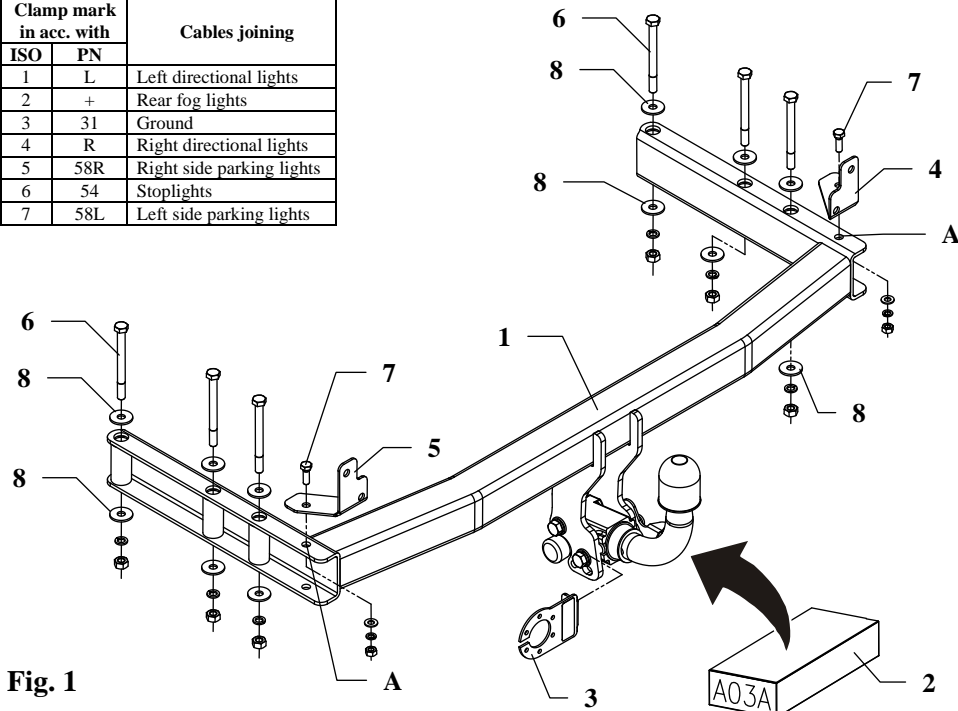
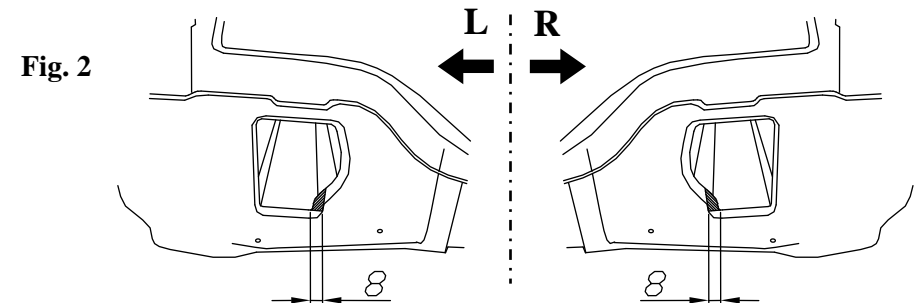

Fig. 1
Fig. 2
2. Enlarge enter of chassis members by cut fragment according to figure 2.
3. Through holes of towbar pos. A fix handles (pos. 4 and 5) using bolts M8x25mm (pos. 7).
5. Main bar of the towbar together with bumper slip into chassis members in this way, so holes of towbar agree with original prepared holes and fix from inside bumper using bolts M10x110mm (pos. 6) as shown in figure 1.
7. Fix body of the automat and place tow-ball according to supplied instruction. Note! Remember to place socket plate (pos. 3) as shown on the drawing 1.